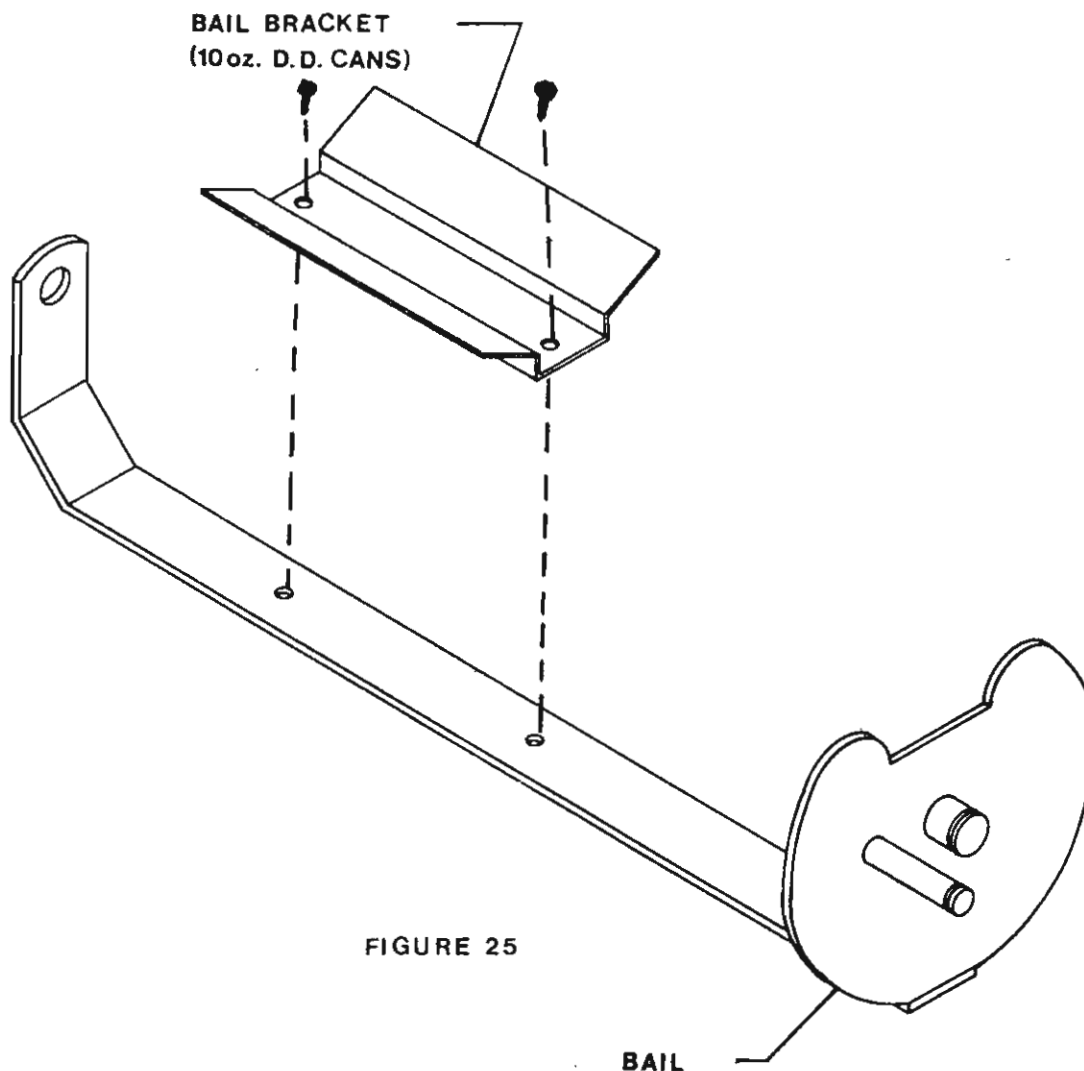

FIGURE 25
4. Install a bail bracket P/N 384326 on each bail one per column. FIG.25